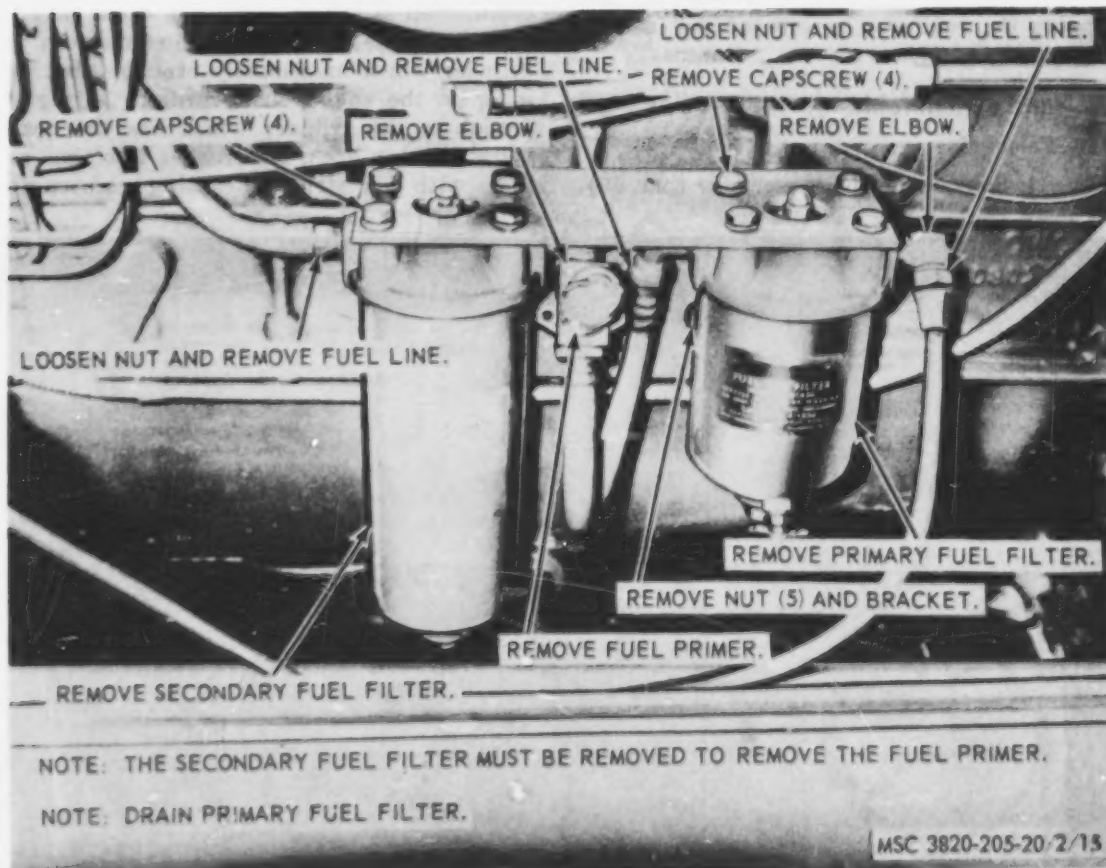

Figure 19. Fuel primer and fuel filters, removal and installation.
- (3) Stop the engine and replace the injector noted in (2) above.
- (4) Start the engine as in (1) above. If the operation is still erratic, determine the firing order (par. 4b) and replace injector that injects immediately prior to fuel injector found in (2) above.
c. Removal. Remove the six fuel injectors from the engine as instructed on figure 19.
e. Installation. Install the fuel injectors on the engine in reverse of the instructions on figure 19.
- (1) Remove one fuel injector from the engine, leaving the fuel lines connected to the fuel injection pump.